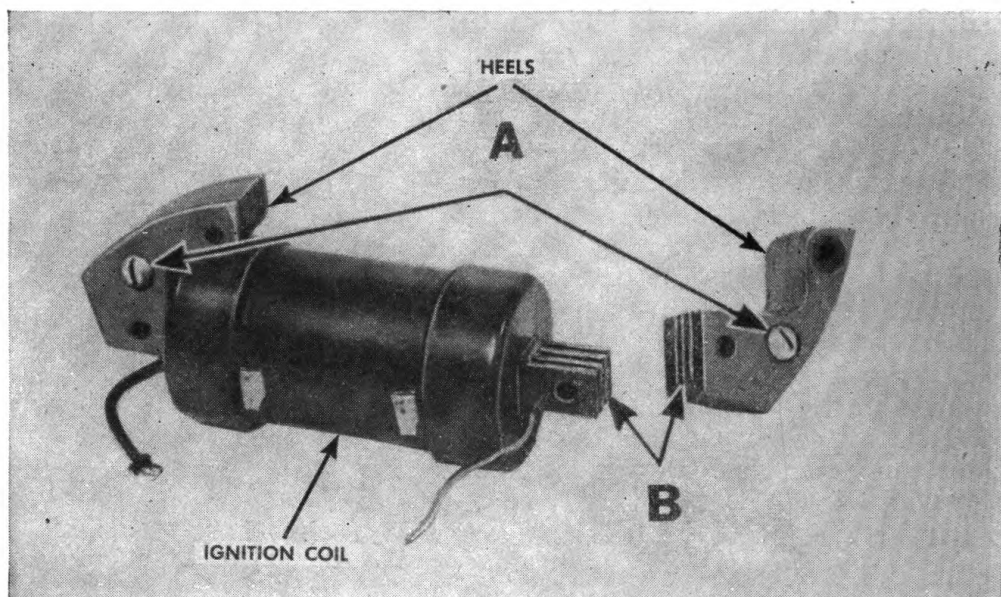

Figure 65. Coil and coil heels.
j. INSTALLING NEW IGNITION COIL. (1) Detach ground wire from armature base. Detach primary lead soldered to bracket on breaker plate. Detach spark-plug wires soldered to top of coil. Care must be taken not to use too much heat. Remove four screws which hold coil to base. Do not remove two screws shown at *A*, figure 65. Remove coil and heels together.
(2) New coils are furnished with semifinished coil heels, and it is necessary to turn them to proper diameter after installing coil to base. Coil heels are turned to same diameter as pads to which coils are attached on armature base. This operation should be performed by an experienced machinist.
(3) If no lathe is available, old coil heels may be removed and installed on new coil. (See *B*, fig. 65.) Coil heels must be made flush with pads on armature base to prevent striking pole shoes on magnet